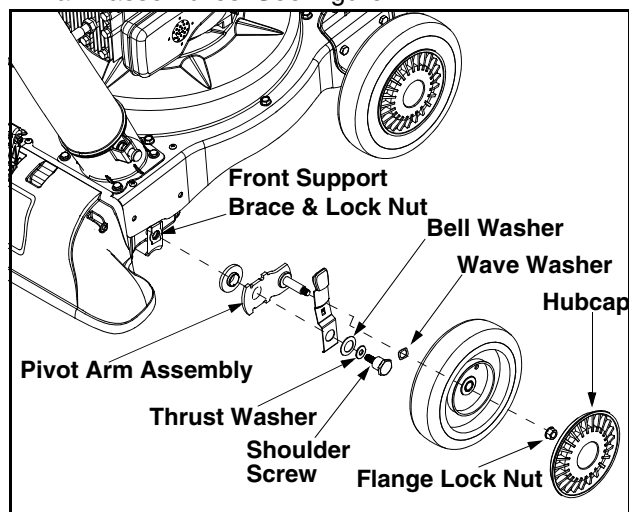

Figure 17
- Remove the front hubcaps, flange lock nuts, front wheels, and wave washers that attach to the pivot arm assemblies. See Figure 17.